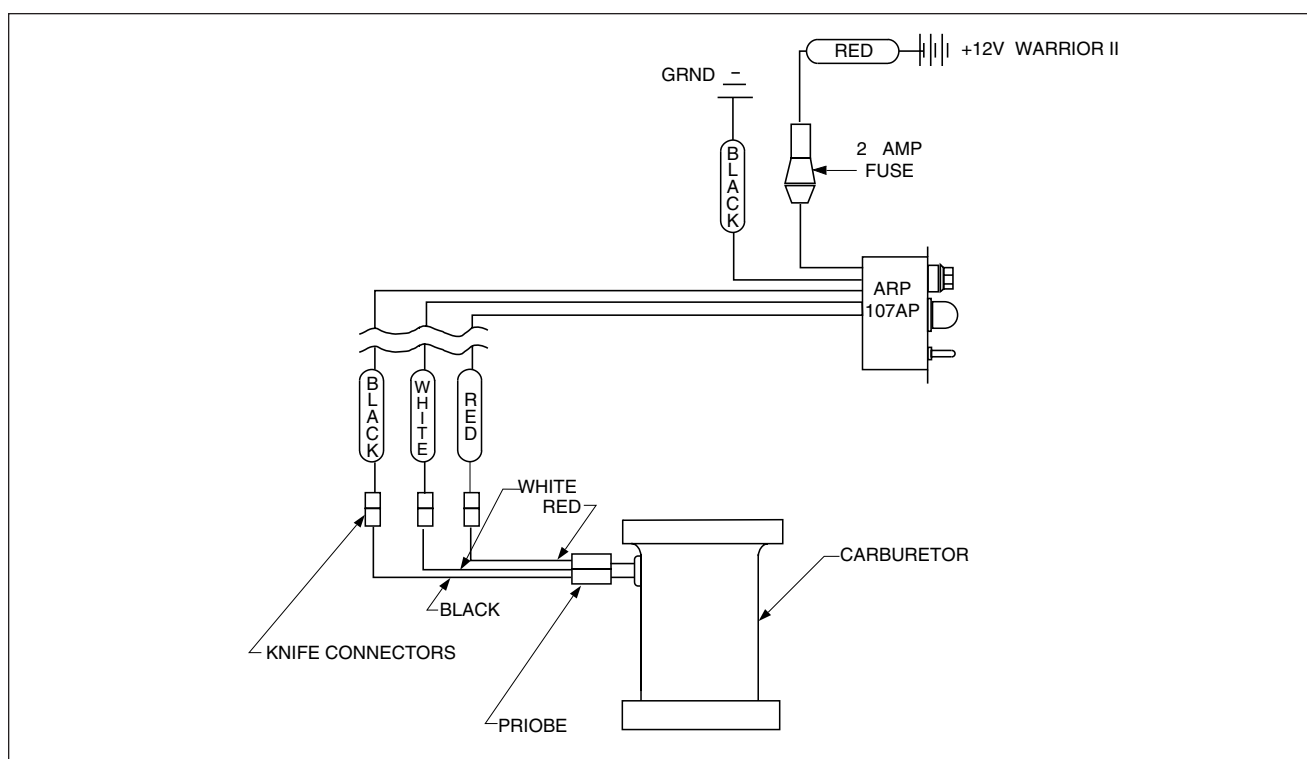

Figure 8-35. Warrior II Ice Detection System
- a. To test Warrior II and III probes(Refer to Figure 8-35)